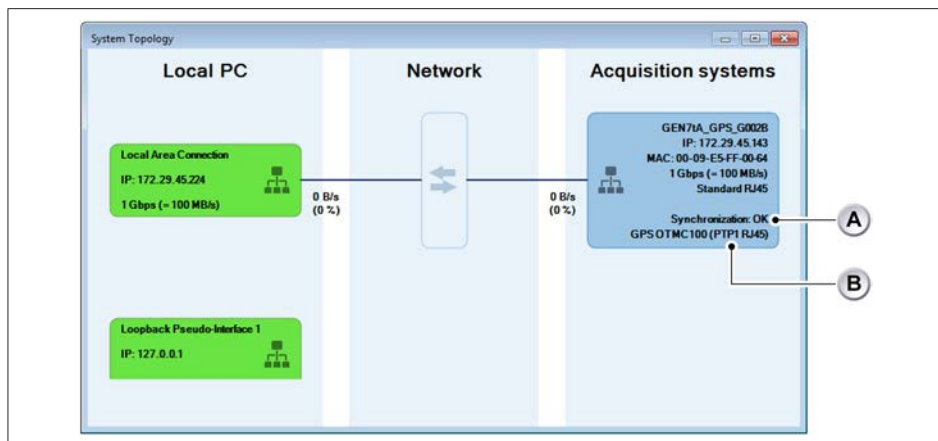

Fig. 15.46 System Topology
2. The **System Topology** overview opens (see Fig. 15.46):
- B States that **GPS OTMC 100** is connected as selected (**PTP1 RJ45** for RJ45 connection as shown in Fig. 15.46, **PTP2 SFP** if you are using the optical Ethernet connection)